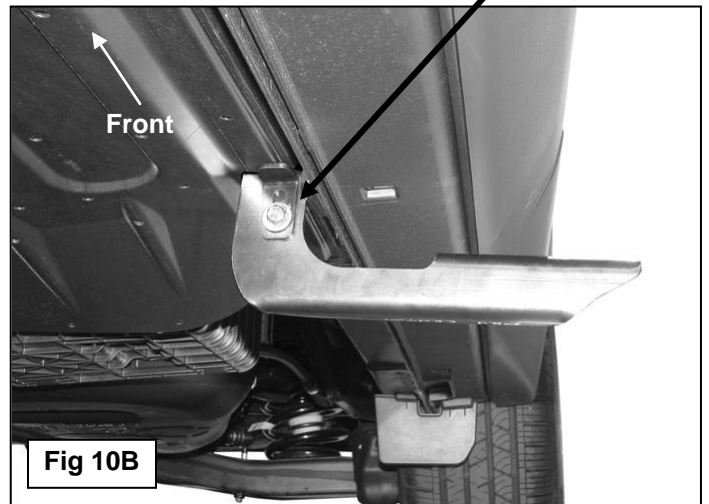

Fig 10B
10. Select (1) "L" Center Support Bracket, (Figure 10A). Bolt the L-Bracket to the front of the Center Bracket with (1) 6mm x 25mm Hex Bolt, (2) 6mm x 22mm Large Flat Washers and (1) 6mm Nylon Lock Nut, (Figure 10B). Leave loose at this time.